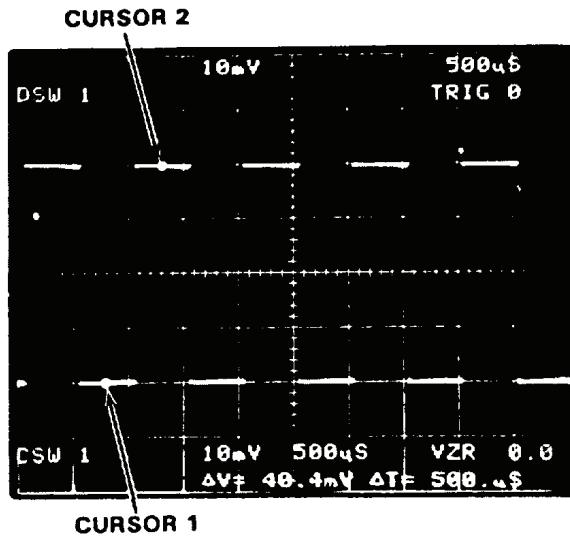

Figure 8. Typical CURSORS Δ display.
(5) Press **CH 1 AC** pushbutton and set **VOLTS/DIV** to **20 mV**.
(6) Connect oscilloscope calibrator **SOURCE/MEASURE CHAN 1** output to **CH 1** input and adjust oscilloscope calibrator frequency for 1 kHz and amplitude for 50 mV.
(7) Press **f** (function) and **CURSORS Δ ON** pushbutton and adjust **CURSORS** as shown in figure 8.